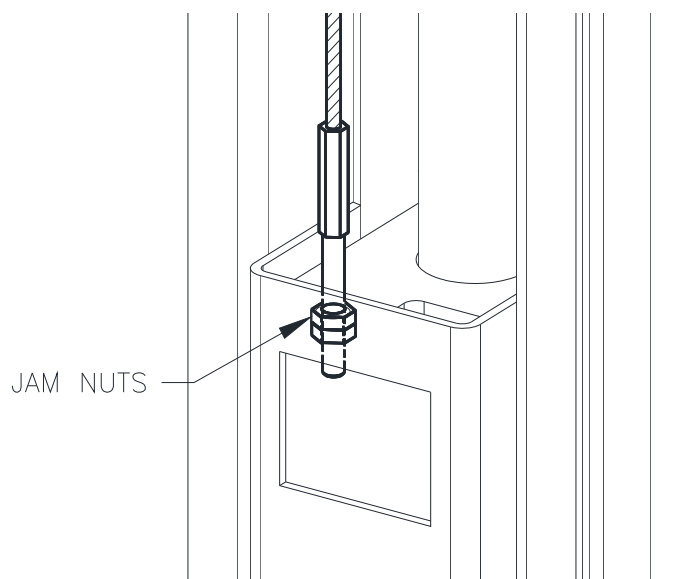

Fig 12c - Carriage Connection
- 26) Route other end of cable up and over sheave in Overhead. Follow across to sheave on opposite Column. Route cable down through Column to top mounting plate in Carriage. Attach cable to Carriage top plate as seen in **Fig 12c** with (2) hex jam nuts. Repeat for opposite side.